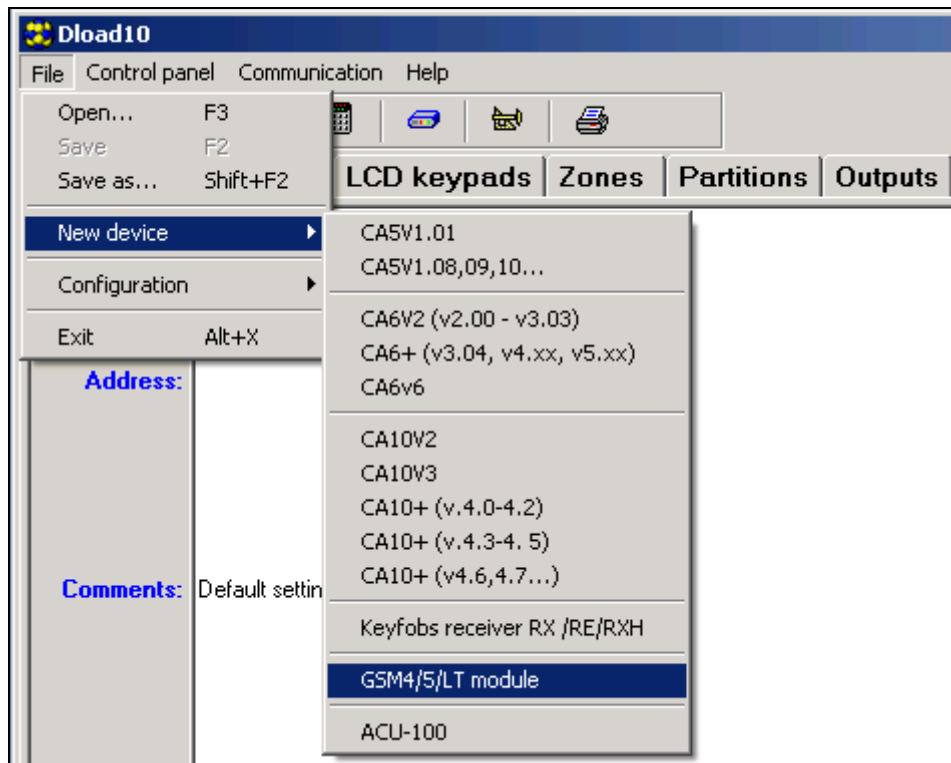

Fig. 6. Selecting the GSM module after starting the DLOAD10 program.
2. In the DLOAD10 program, "File" menu, first select "New device", and then "GSM-4/5/LT module" (see: Fig. 6).